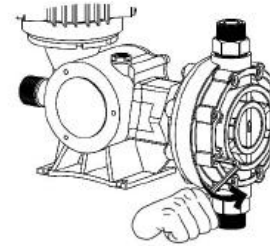
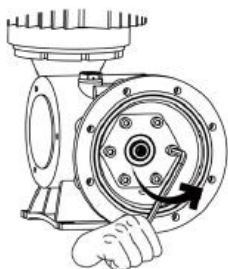

Figure 7
Figure 11
- ◆ Loosen the screws on the pump head in diagonal sequence. (See figure 7)
- ◆ When figure 7 is finished according to the operation method of 7.4, it is necessary to turn the stroke adjustment knob to 100 %, and then use a wrench to diagonally remove the bolts on the transition section (See figure 11).